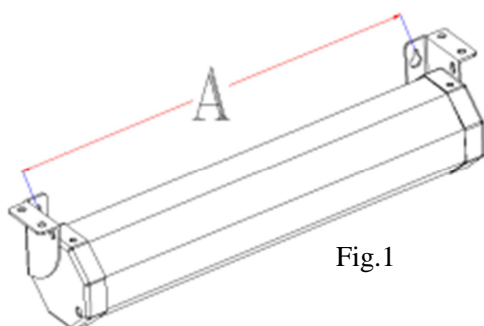

Fig. 1
1. Measure distance A (shown in Fig. 1) between the 2 holes on the backside of both end caps with a measuring tape. Mark and then drill the two screw holes on the wall.